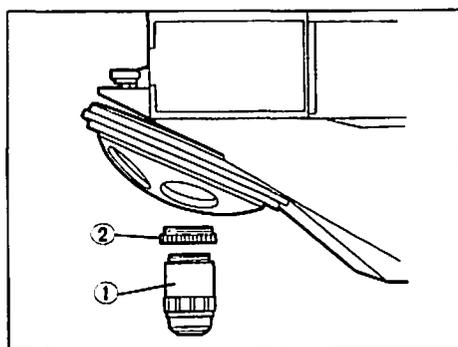

Fig. 40
27 Mounting the Objective Adapter (Figs. 40, 41)
1. When mounting a brightfield objective to the motorized revolving nosepiece (BH3-5NRE-M), first mount the objective adapter (NRE-MAD) in the threaded hole of the revolving nosepiece, and insert the bright-field objective into the adapter. (Fig. 40)